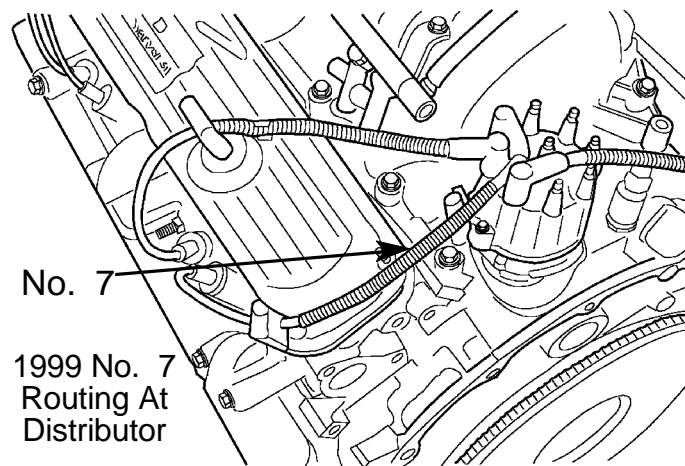

FIGURE 9
- B. For 1999 M.Y. vehicles the No. 7 cylinder plug wire was shortened. Reroute the No. 7 cylinder plug wire so that it crosses the distributor cap and leaves the distributor cap between the No. 6 and the No. 5 tower terminals (Figure 9).